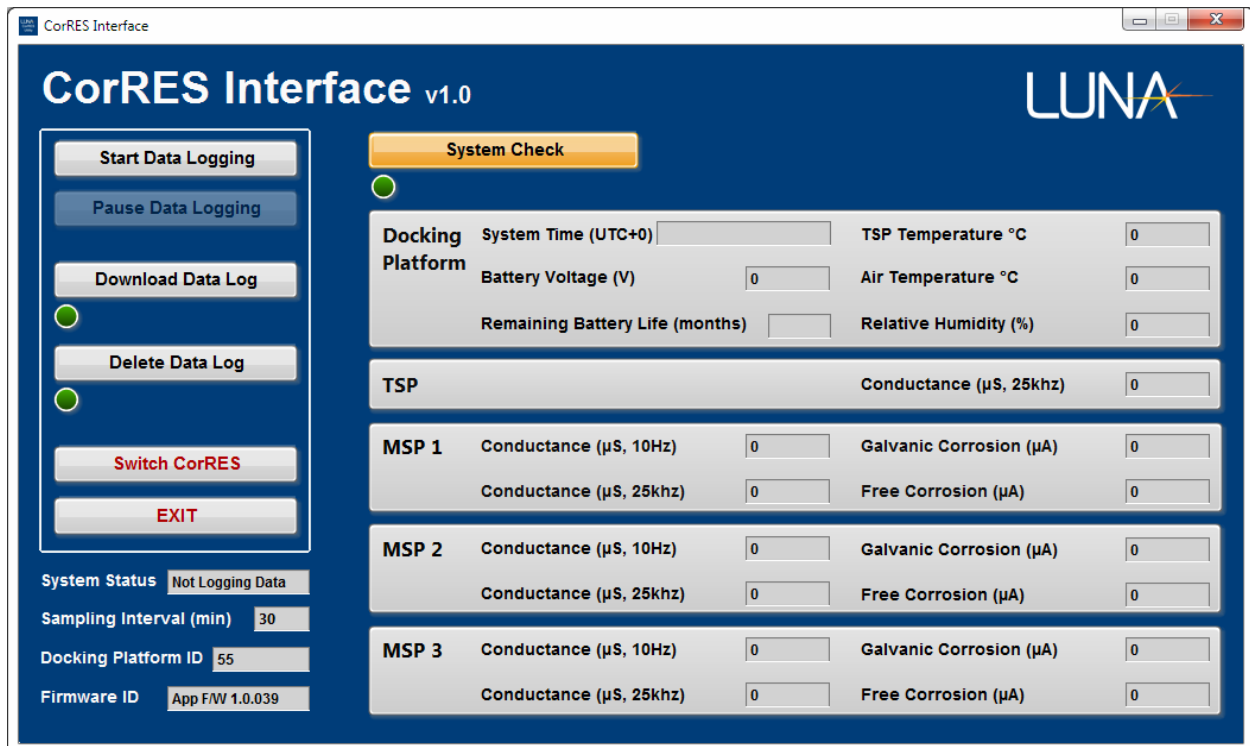

Figure 9. CorRES Interface Utility main screen appears once communications are established.
- a. If the correct COM port has been selected, the software will verify communications with the CorRES and automatically advance to the main screen (Figure 9).
The CorRES user interface main screen appears once communications are established (Figure 9).